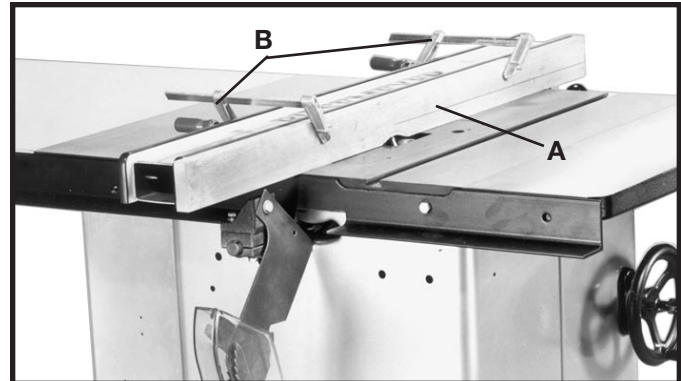

Fig. 59
CAUTION It is necessary when performing special operations such as moulding to add wood facing (A) Fig. 59, to one or both sides of the rip fence, as shown. The wood facing is attached to the fence with two clamps (B). 3/4 inch stock is suitable for most work although an occasional job may require 1 inch facing.